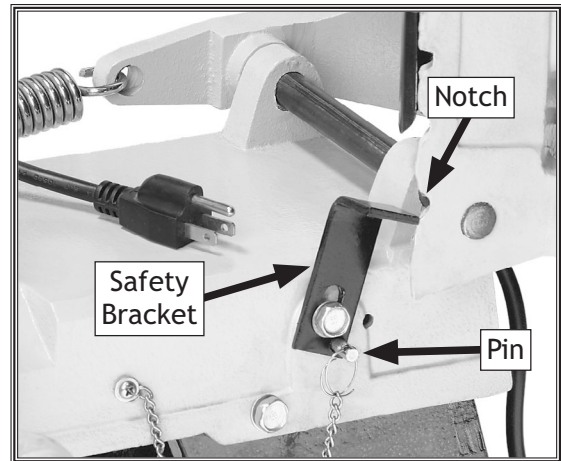

Figure 27. Safety bracket in position.
6. Install the safety bracket and lock it in place with the pin shown in **Figure 27** to keep the saw from falling.